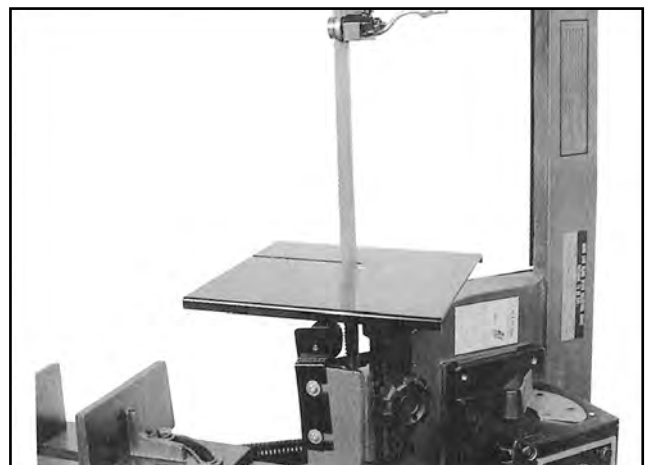

Fig. 3
4. Guide blade through slot in table and fasten with two screws. See Fig. 3